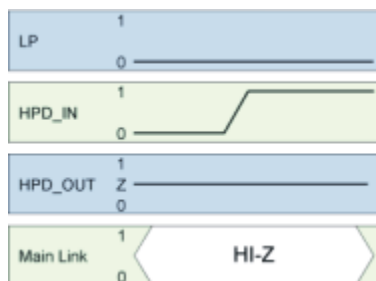

Figure 14.
- Case one: In this case HPD_IN is initially LOW and the low power pin is also LOW. In this initial state the device is in a low power mode. Once the HPD input goes to a HIGH state the device remains in the low power mode, with both the main link and auxiliary I/O in a high impedance state (Figure 14).